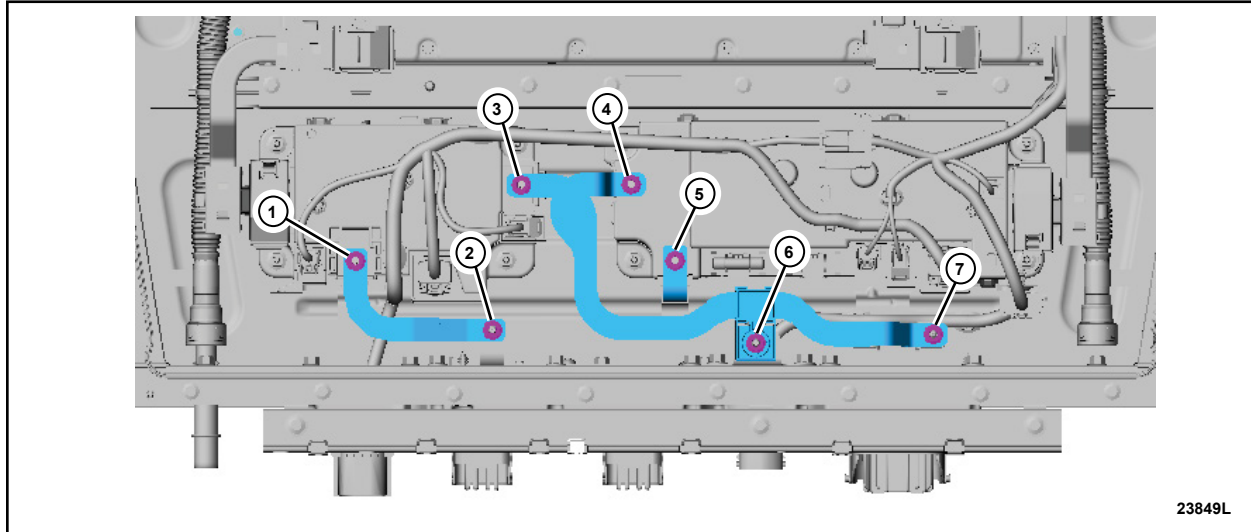

FIGURE 11
26. Check the residual torque-to-tighten on the bolts in Figure 11. Record the data.